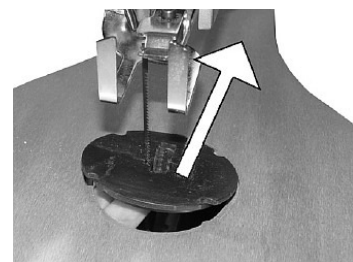

Fig. 10: Open the cover
Step 2: Remove the table cover (Fig. 10).